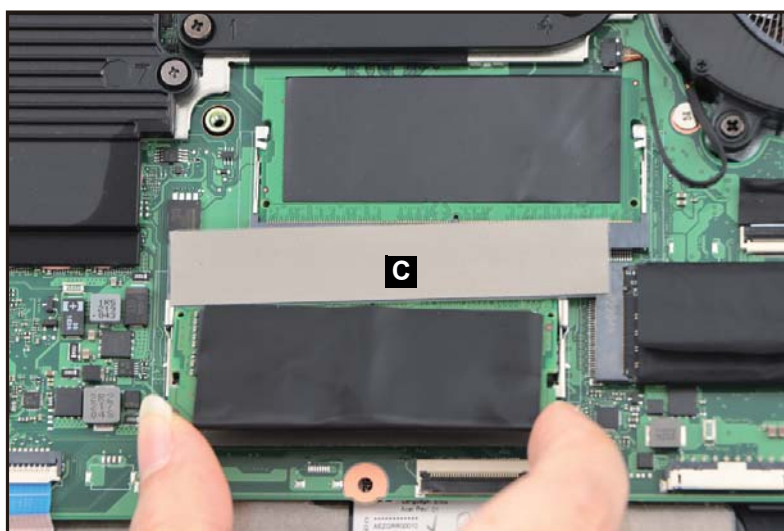

Figure 1-16. DIMM Module Removal
3. Disconnect the DIMM module from the mainboard connector (C) (Figure 1-16). Then remove the DIMM module.